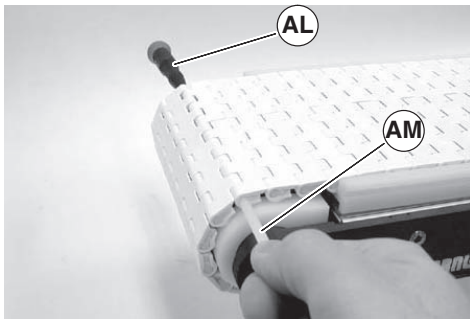

Figure 18
3. Insert screwdriver (Figure 18, item AL) into one side of belt, pushing rod (AM) out. Remove rod and separate belt.